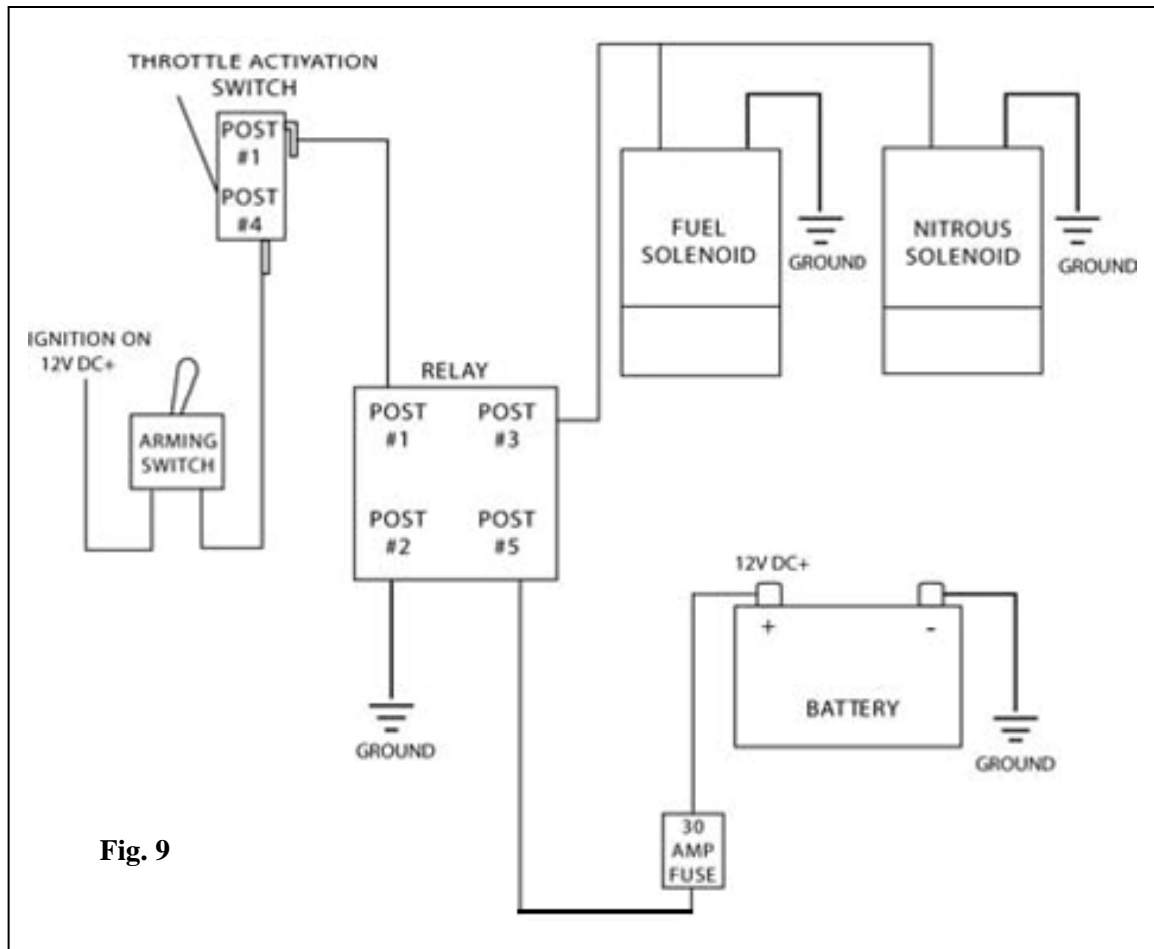

Fig. 9
- D. Using the supplied electrical connectors and wire, refer to the wiring diagram for proper routing and electrical connections for the nitrous system (see Fig. 9). Always use the supplied fuse for electrical system protection in the event of a short in the system. The best positive (+) power source for the nitrous system is a direct connection to the battery's positive (+) post. Do not splice into the factory wire harness, it will not have the ability to supply the current required by the nitrous and fuel solenoids.